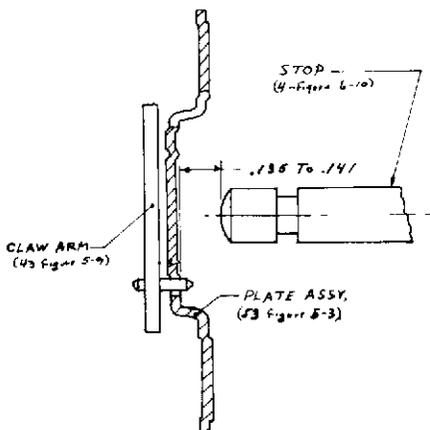

Figure 3-28. LENS HOLDER STOP ADJUSTMENT
- a. Assemble belt (24) with toothed surface away from pulley.
- b. Lubricate working surface of plunger (16) and arm (11) with Versilube G-322L grease.
- c. Replace retainer (12). DO NOT REUSE.
- * b. Adjust stop (p/o Lensholder 41, Fig. 5-3) to produce .135 to .141" as shown in Fig. 3-28.